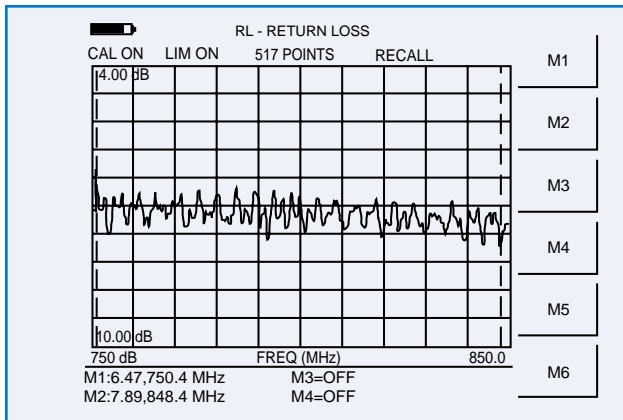

Figure 5. Typical Insertion Loss Display in Return Loss Mode
Step 8. Press the **AMPLITUDE** key and set the TOP and BOTTOM values of the display. In Figure 5, the TOP is set to 4 dB, and the BOTTOM is set to 10 dB.